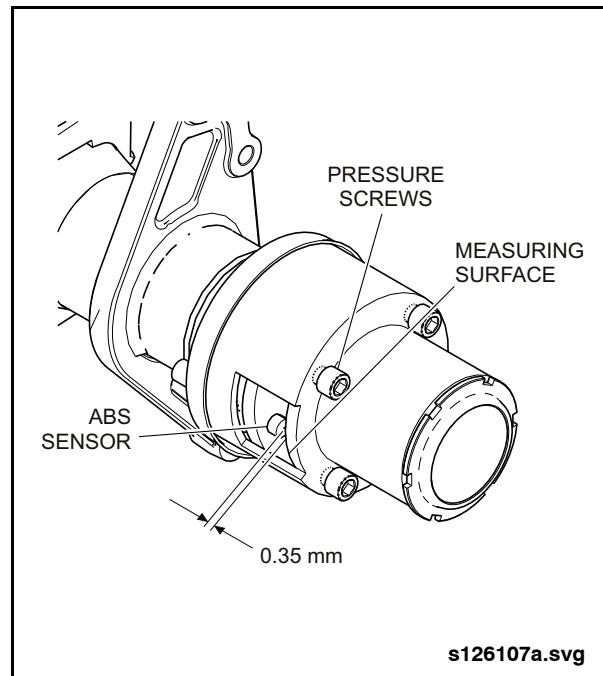

Fig. 2-150: Setting Gap Width
1. Use the Feeler Gauge (Item 22 from special tools list) to check the gap between the ABS sensor and the measuring surface of the assembly sleeve tool. See "Fig. 2-150: Setting Gap Width" on page 128.